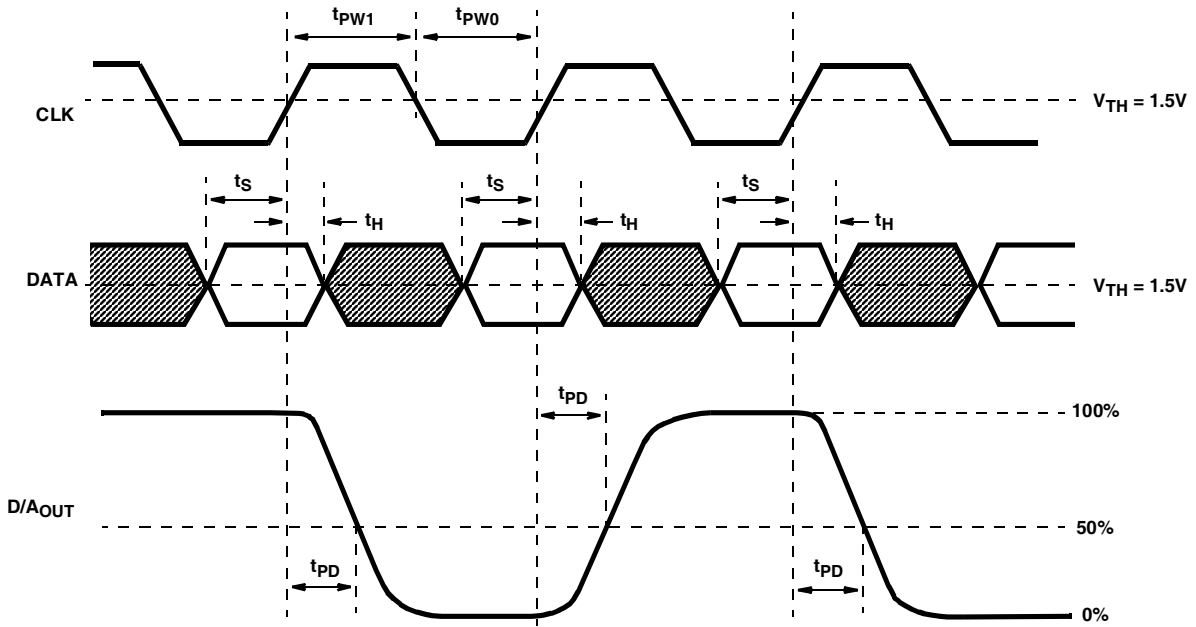

FIGURE 6.
- See Figure 6 in the Timing Diagram.
To make the best use of the inherent characteristics of this D/A converter the phase relation between the data and clock applied from the exterior, should be properly set. Set up time (t_S) and Hold time (t_H) should be as indicated in the Electrical Specifications. For t_S and t_H refer to Figure 6 in the Timing Waveform. Also, set the clock pulse width according to the Recommended Operating Conditions.